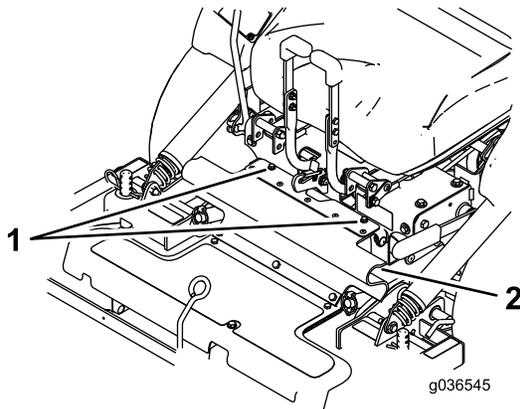

**Figure 78**
7. Remove the lynch pins at the front of the push arms on both sides of the machine (Figure 78).
7. Secure the push arms with the lynch pins on the left and right sides of the machine (Figure 78).